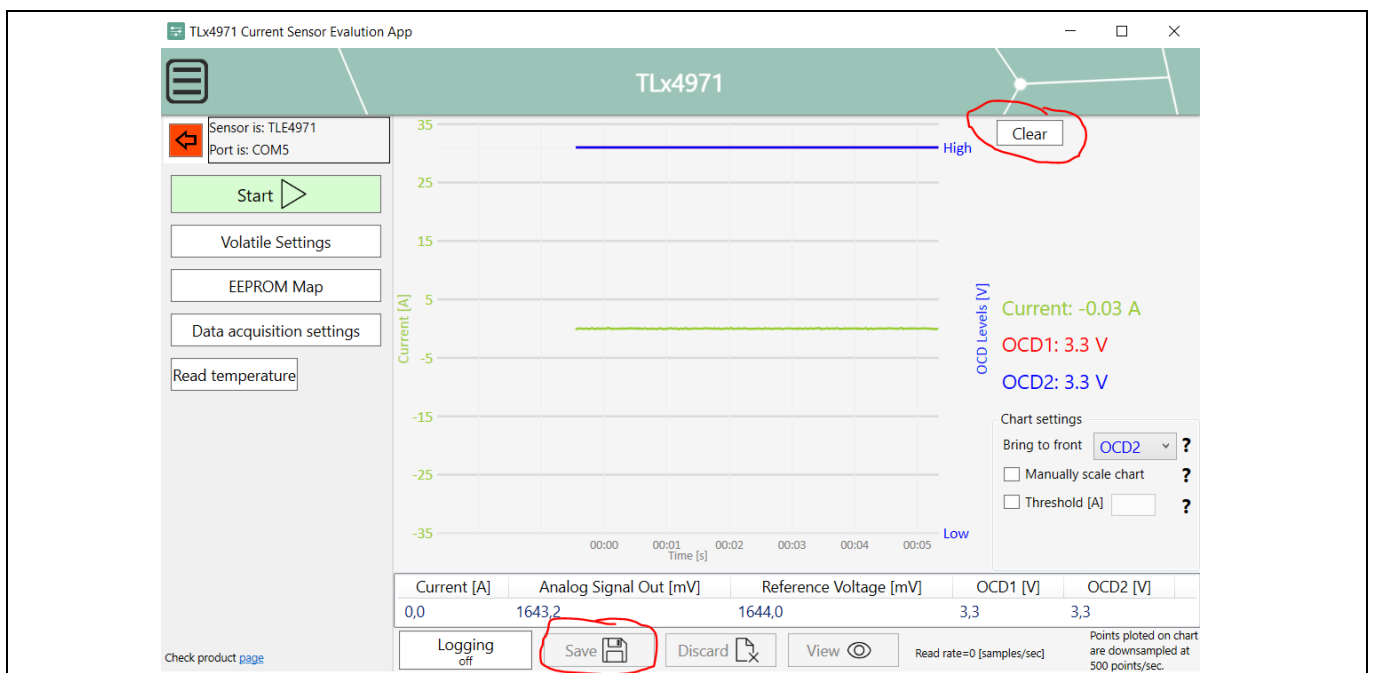

Figure 15 XMC Device: COM6 window: Save and Clear options
- When the user click on the “Start” button then the GUI starts real time graph for plotting the current value (in ampere scale) and OCD line status in the middle pane of the Current2Go Evalkit window, and displays offline acquired values (current computation, AOUT/VREF voltage, OCD states) , as shown in the below Figure 15. Also, either it is possible to save or clear the data by using the “Save” or “Clear” buttons respectively that are highlighted in red color boxes which are on the bottom right side of the XMC Device: COM6 window. The user can click on at any point on the plot window and the respective cursor data will be shown in the small box that is highlighted in red color box which has shown in the bottom right corner of the plot window